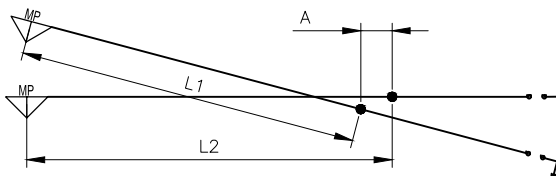

FIG. 2
2. EXPLANATION OF DISTANCE A WHEN BOTH CATENARIES HAVE THE FIXED POINT IN SAME DIRECTIONS. FIG. 2